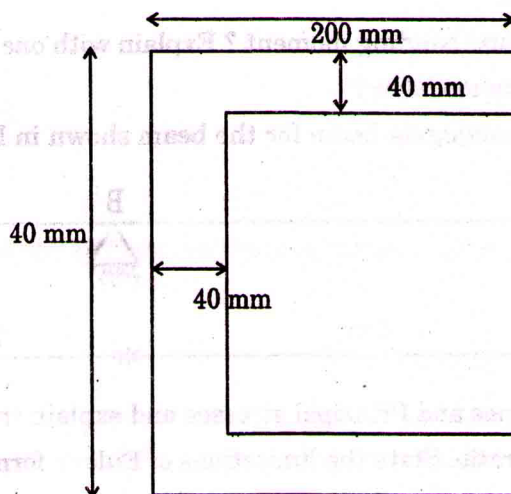

Fig. 3
- IV. (a) For a channel section shown in Fig. 3 determine the section modulus. Hence calculate the maximum bending stresses. Sketch the distribution of bending stress if the section is subjected to a B.M of 40 kNm.